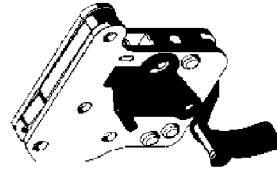

Figure 3
3. Insert the **trigger pivot pin** through the hole in the blocker, the right hand side plate, and the trigger. Align the hole in the blocker with the shoulder on the trigger pin before pressing the pin into the hole in the left hand side plate. See Figure 3.
9. Place the front end of **sear safety cam** into the **trigger housing** as shown in Figure 3. - Insert a m7 bolt stop pin through the trigger housing and sear pivot hole to retain the sear safety cam in the trigger housing.